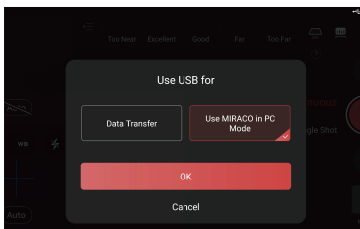

Figure 1
Step 4: Select [Use MIRACO in PC Mode] and tap [OK], see Figure 1.